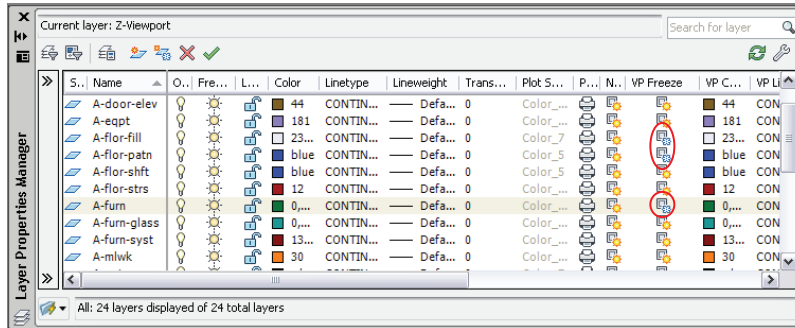

FIGURE 13.19 Freezing selected layers in the current viewport only
- Expand the palette to the right by dragging its edge. Observe a set of properties in columns preceded with the letters VP (viewport). Click the icons in the VP Freeze column for layers A-furn, A-flor-fill, and A-flor-patn to freeze them in the current viewport (see Figure 13.19).